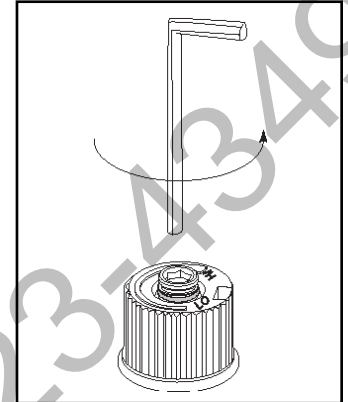

Figure 74
The gas supply shall be shut off prior to disconnecting the electrical power, before proceeding with the conversion (Figure 74).
- Insert a 5/32" or 4 mm Allen wrench into the hexagonal keyway of the screw (Figure 74), rotate it counterclockwise until it is free and extract it.